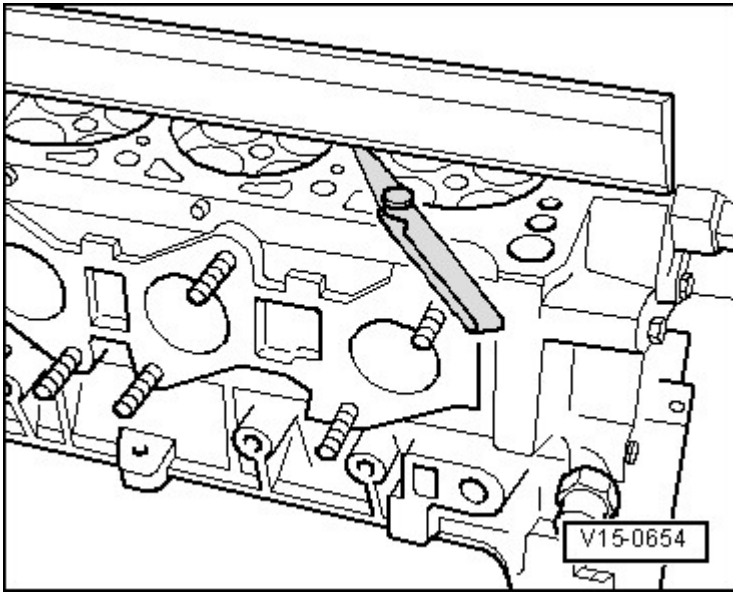

Fig. 14: Checking Cylinder Head For Distortion
- Checking for distortion **Fig. 14**